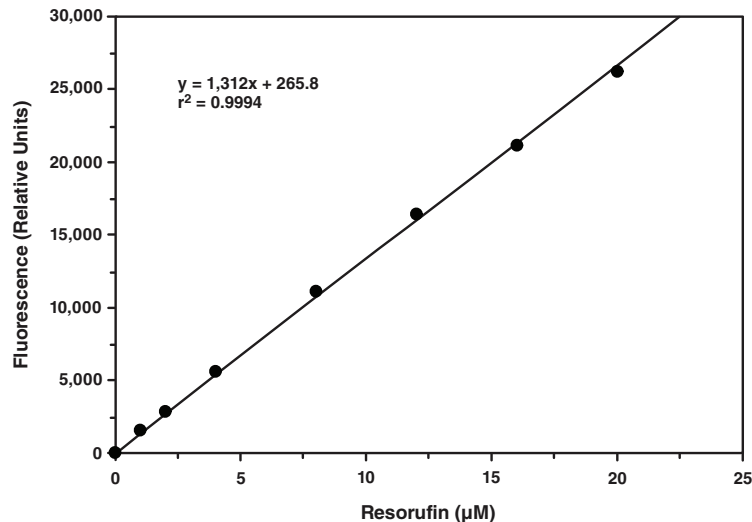

Figure 3. Resorufin standard curve
2. Plot the corrected fluorescence of the standards as a function of the final concentration of resorufin from Table 1. See Figure 3, on page 16, for a typical standard curve.